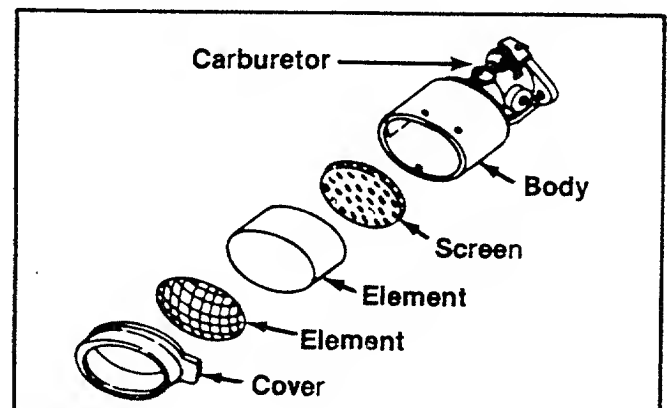

FIGURE 9.
If equipped with filter shown in figure 9 proceed as follows:
3. Reassemble in sequence shown in figure 9.